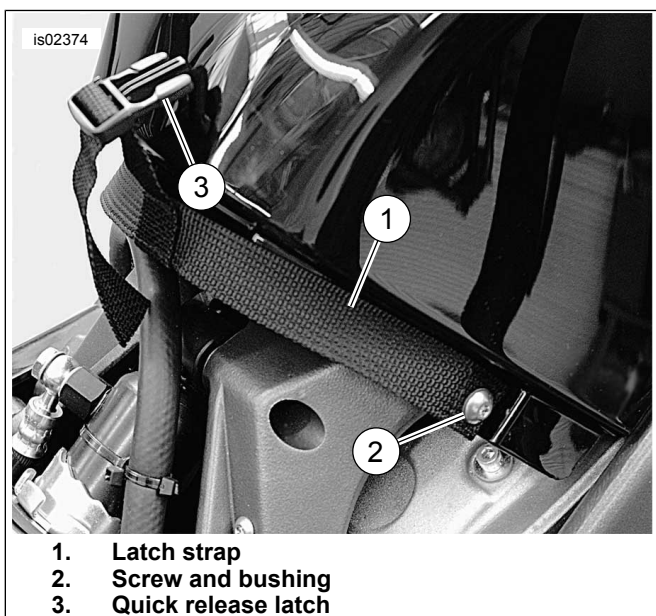

Figure 3. Rear Cover Bag Strap
2. See Figure 3. With quick release buckle facing forward, fit latch strap around cover flange from one mounting hole to the other.